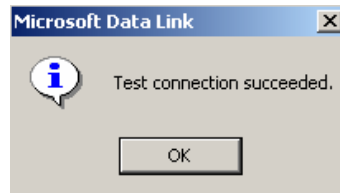

Figure 1.23. Successful SQL Server Test Connection
4. Click the **Test Connection** button. If the test is successful, a message box appears, as shown in Figure 1.23. Click **OK**. Then click the **OK** button on the **Data Link Properties** dialog box.